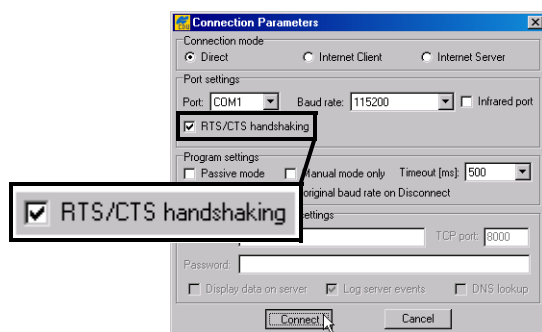

Figure 5-13. Connection Parameters – RTS/CTS Handshaking
2. On the **Connection Parameters** dialog box, enable *RTS/CTS handshaking* (Figure 5-13).